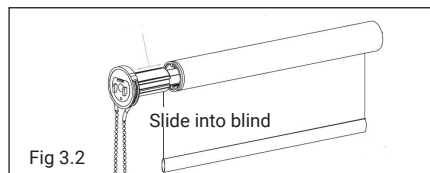

Fig 3.2
3. Slide the spring into the end of the blind tube but do not push all the way in. Stop just short of the point where the chain drive engages with the keyway on the tube (Fig 3.2).